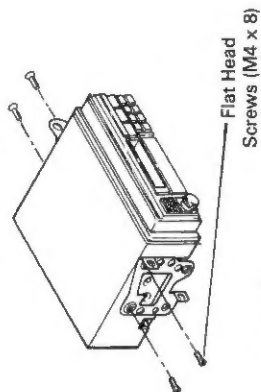

Fig. 6
2. Remove the bracket from the factory installed radio, and install it on the unit using the screws (M4 x 8) supplied as shown in Fig. 6.